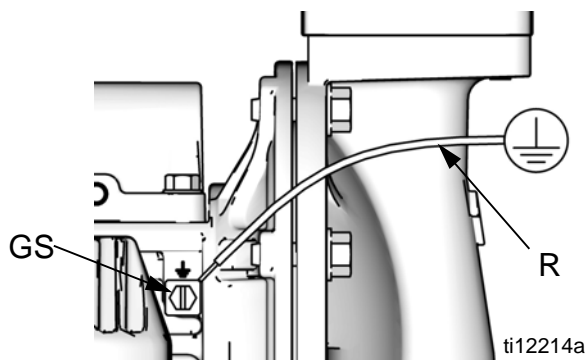

FIG. 1. Grounding screw and wire
Pump: See FIG. 1. Loosen the grounding screw (GS). Insert one end of a 12 ga. minimum ground wire (R) behind the grounding screw and tighten the screw securely. Do not exceed 15 in-lb (1.7 N•m). Connect the clamp end of the ground wire to a true earth ground. A ground wire and clamp, Part 238909, is available from Graco.